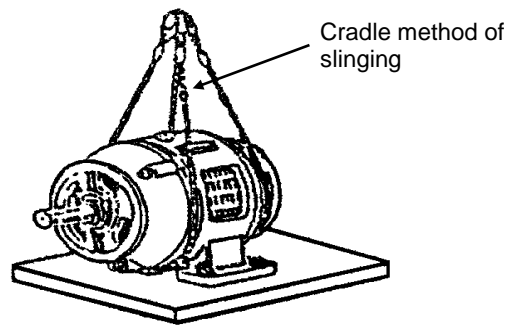

FIG 37.
F. Select two slings suitable for slinging the load by the cradle method. (Fig 37)